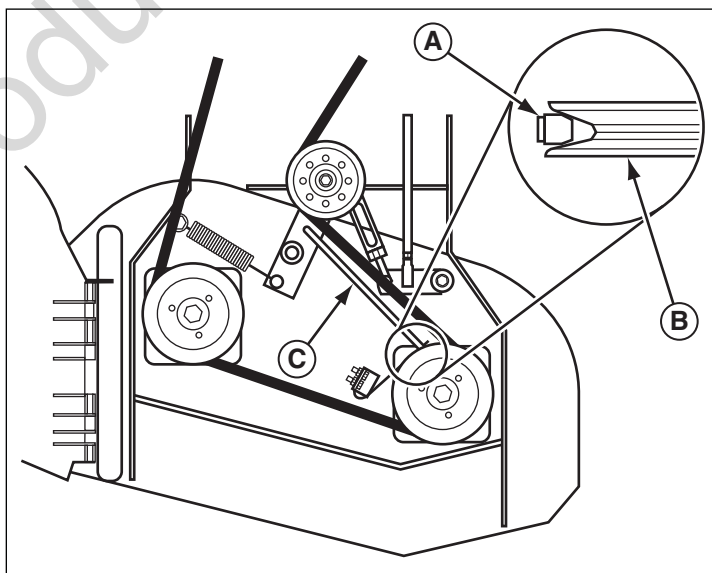
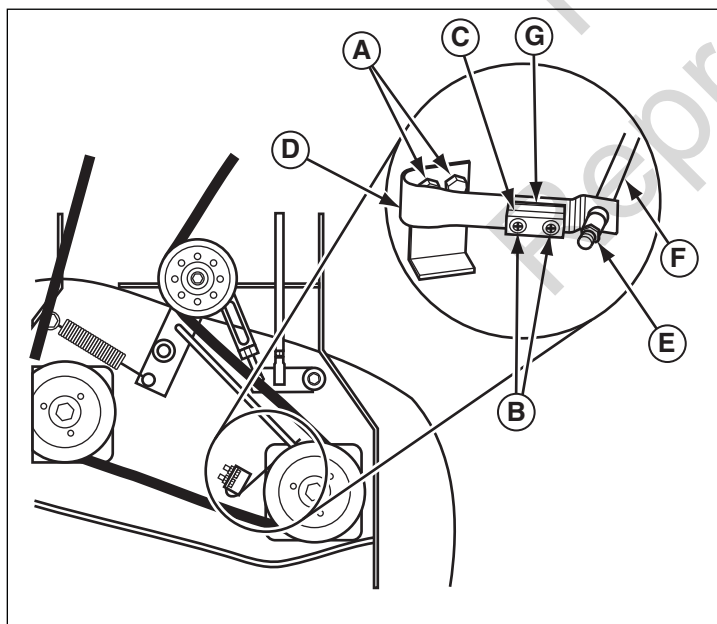

Figure 21. Check Belt Tension
Figure 22. Adjusting the Blade Brake Clearance
3. Make sure that the blade brake pad (**A, Figure 21**) rests against the sheave of the pulley (**B**). If the blade brake pad is not properly aligned, loosen the brake spring mounting bolts (**A, Figure 22**) and properly align the blade brake pad.
2. Loosen the two screws (B, Figure 22) that secure the blade brake pad (C) and plate (G) to the blade brake spring (D).